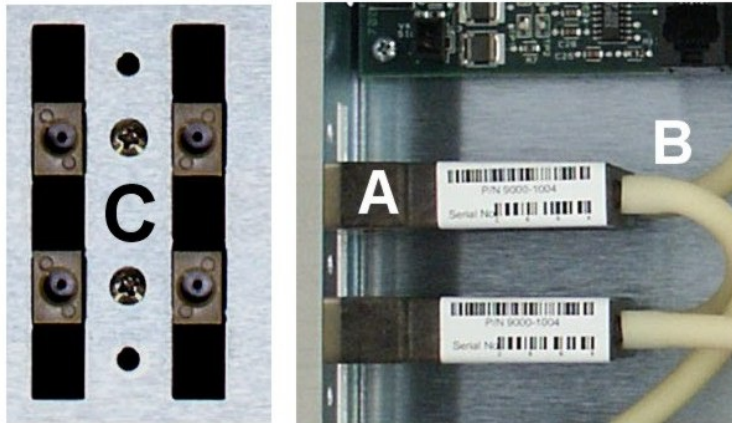

Figure 4. Left-side: front view vacuum degasser cartridge. Right-side: side view of vacuum chamber cartridge.
5. Reconnect vacuum tubing as depicted in figure 4.